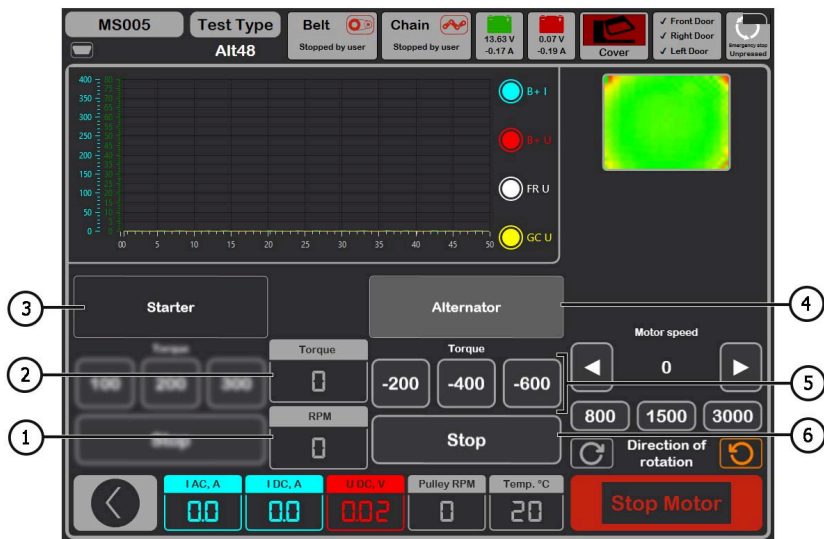

Figure 28. 48V alternator testing mode menu
In the alternator diagnostic mode for 48 V alternators (see Figure 28), the following distinctive information may be displayed on the screen:
6.1. Sequentially increase or decrease the resistance moment (position 5 in Figure 28). At the same time, the current value "I DC, A" should also increase or decrease proportionally.
6.2. Stop the testing mode by pressing the "Stop" button (position 6 in Figure 28).
7.2. Stop the testing mode by pressing the "Stop" button (position 6 in Figure 28).